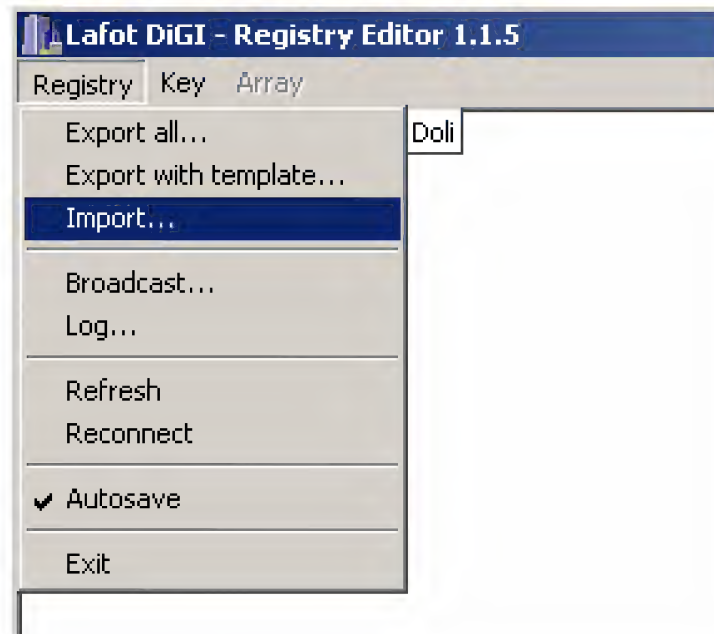
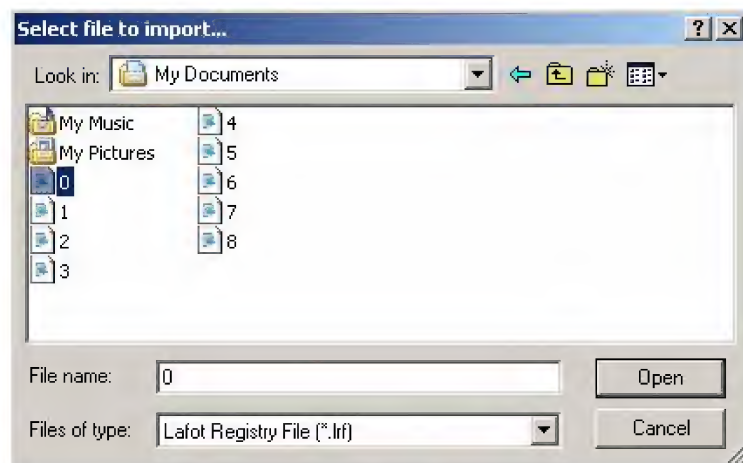

Fig 2.6.7
Fig 2.6.8
- Import the data files **0** to the Linux Registry (Fig 2.6.7 and Fig 2.6.8).